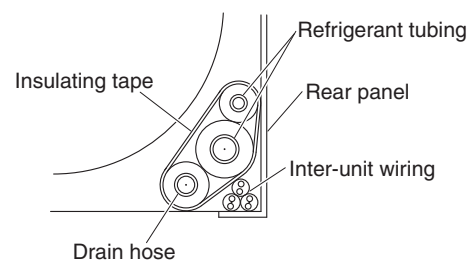

Fig. 3-168
- (2) After performing a leak test, wrap the refrigerant tubing and drain hose together with insulating tape, as shown in the figure at right. (Fig. 3-168)